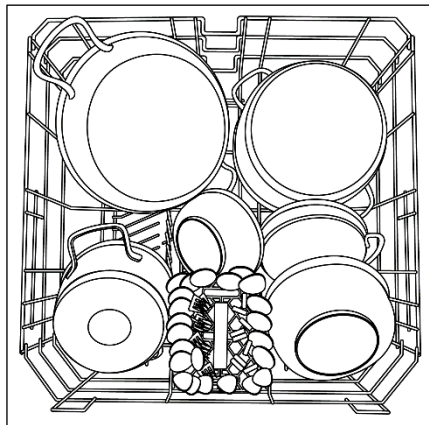

Figure 4
- **AQUASTOP (fig. 4):**
A standard daily load is represented in fig. 4.